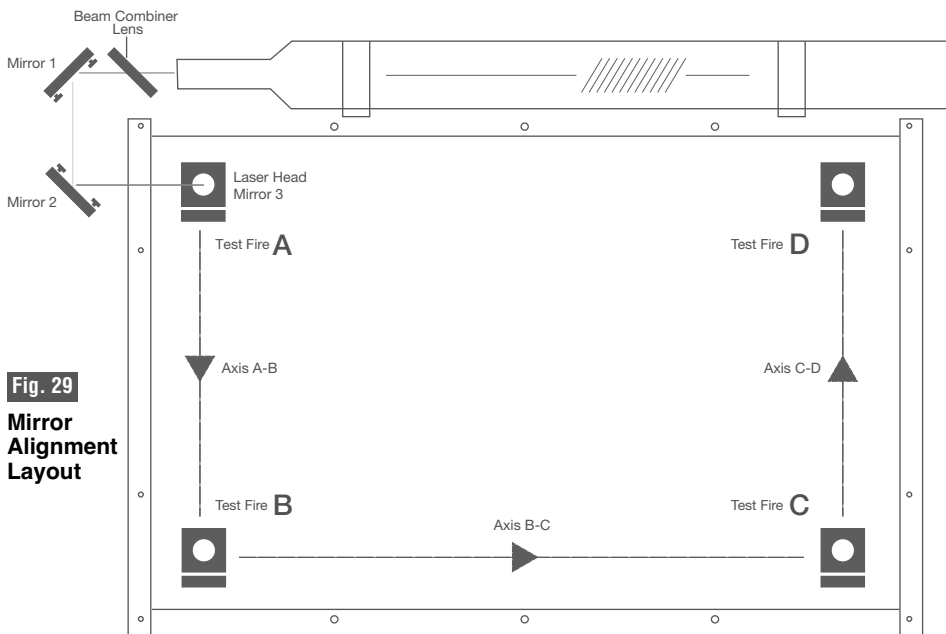

Fig. 29
4. Position the Laser Head: Move the Laser Head into the upper left corner (Location A) of the workspace, Fig. 29.
7. Repeat Test Fire in other three corners: Without removing the thermal paper, repeat firing the Dremel LC40 Laser Cutter once in each of the other corners of the machine (Lower Left B, Lower Right C, Upper Right D). Fig. 29.
4. Move the Gantry to position B, Fig. 29.